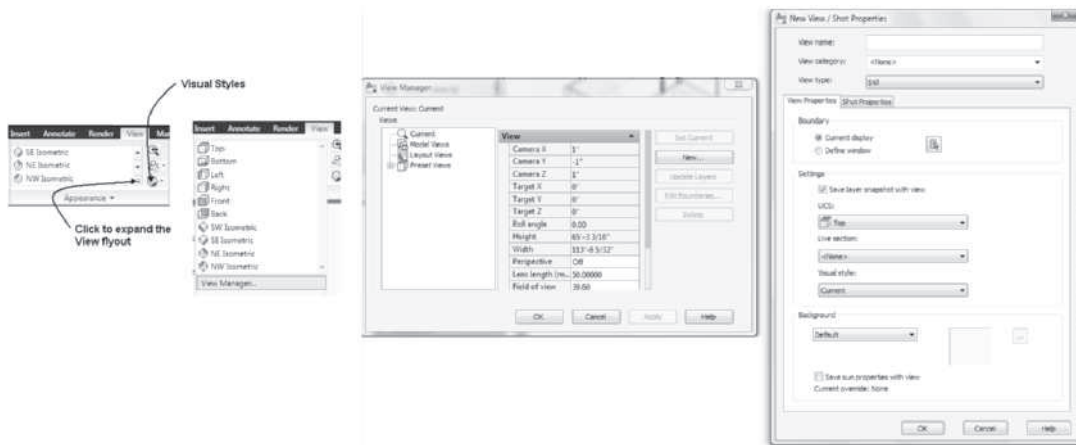

FIGURE 12.32 Creating a Model View drawing
Ribbon	Choose the View tab. Choose View Manager from the View fly-out menu of the Appearance panel shown in Figure 12.32.
4. Click the **New** button of the View Manager to open the **New View** dialog box shown in Figure 12.32. Type a name in the **View** field. Click **OK** to dismiss all dialog boxes. Save and close the View drawing.